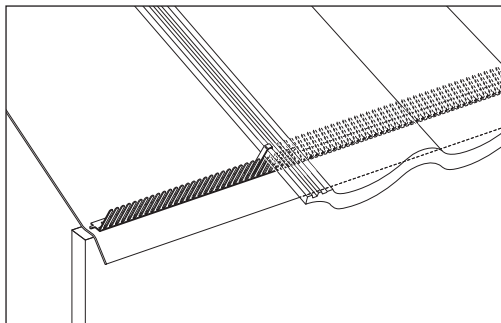

Fig 40 – Eave clip and comb fillers for deep profile tiles
- For deep profile tiles, nail comb filler to top of fascia board (Fig 40).